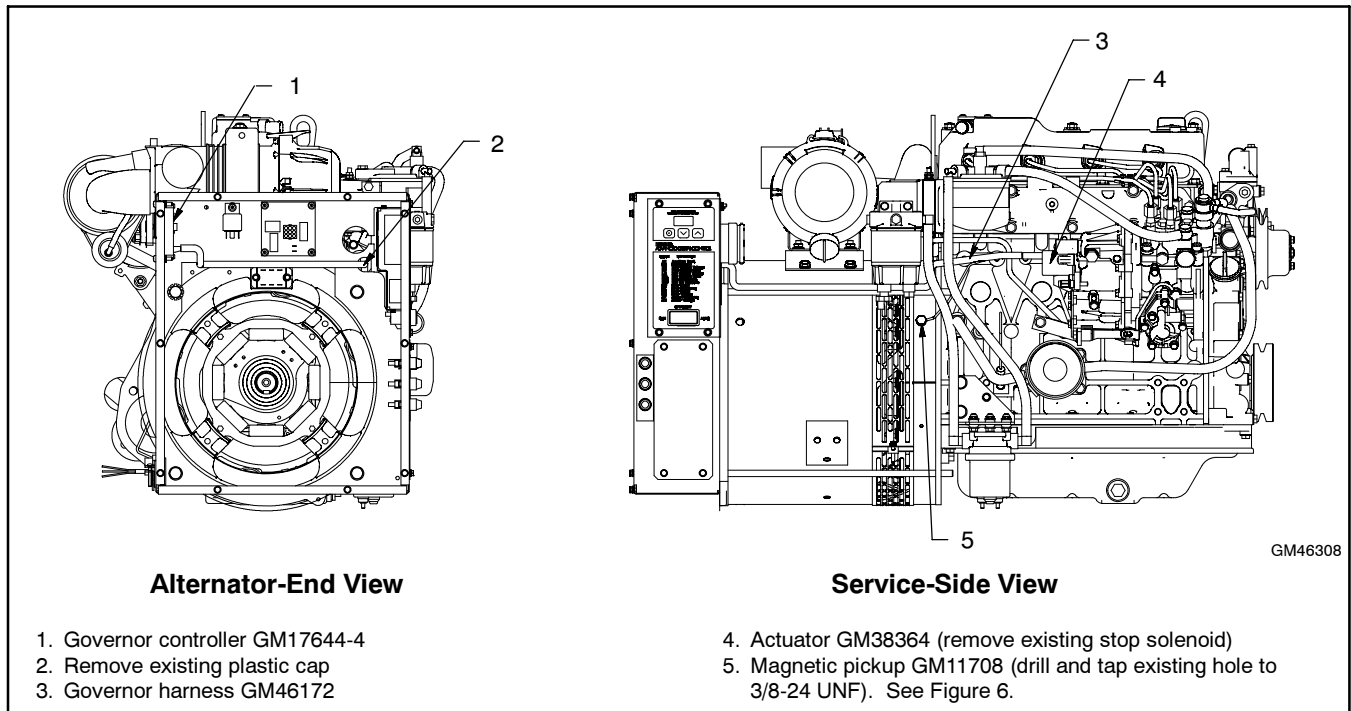

Figure 3 Governor Controller, Actuator, and Magnetic Pickup Locations
- 2.2 Use the 4 screws (M7985A-05025-20), 4 washers (X-22-9), 4 nuts (M934-05-50), and 4 spacers (X-400-145) to mount the governor controller (GM17644-4) inside the junction box. See Figure 3.
2.4 Before removing the engine's stop solenoid, clean the surrounding area. See Figure 3, item 4 for the location. Clean the outside of the pump with solvent and dry with compressed air. Place a suitable container underneath the fuel injection pump to catch any fuel that may spill when removing the governor control cover. Dispose of waste in an environmentally accepted method.
2.5 Disconnect and remove the existing stop solenoid. Install governor actuator GM38364 using the fasteners removed from the stop solenoid. See Figure 3.
2.7 Drill the existing hole at the location shown in Figure 3 to a size of 8.51–8.64 mm (0.335–0.340 in.). Tap the hole to 3/8-24 UNF.